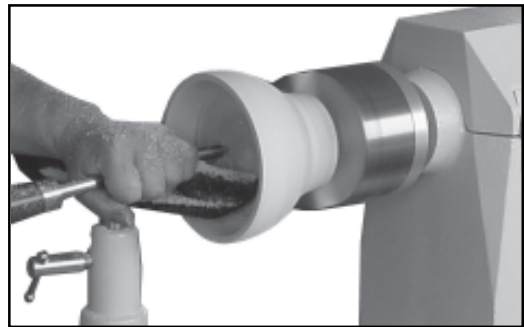

Fig.29
- 4.) Use the tailstock to support the work piece for as long as possible. (Figure 29)